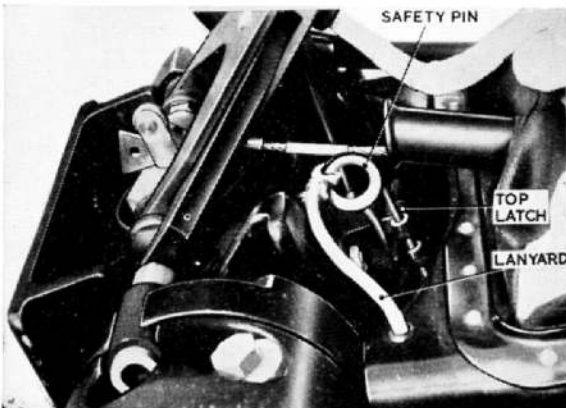

Fig. 5. Top latch safety pin
- (2) Disconnect the intercom. lead and the main and emergency oxygen connections.
- (3) Disconnect the barostatic time-release unit static line from the bracket on the guide rail.
- (4) Disconnect the leg restraining cords by removing the two quick-release pins from the brackets on the cockpit floor.
- (5) Withdraw the safety pin from its housing (fig. 5), release the top latch and lift the seat up the guide rail.